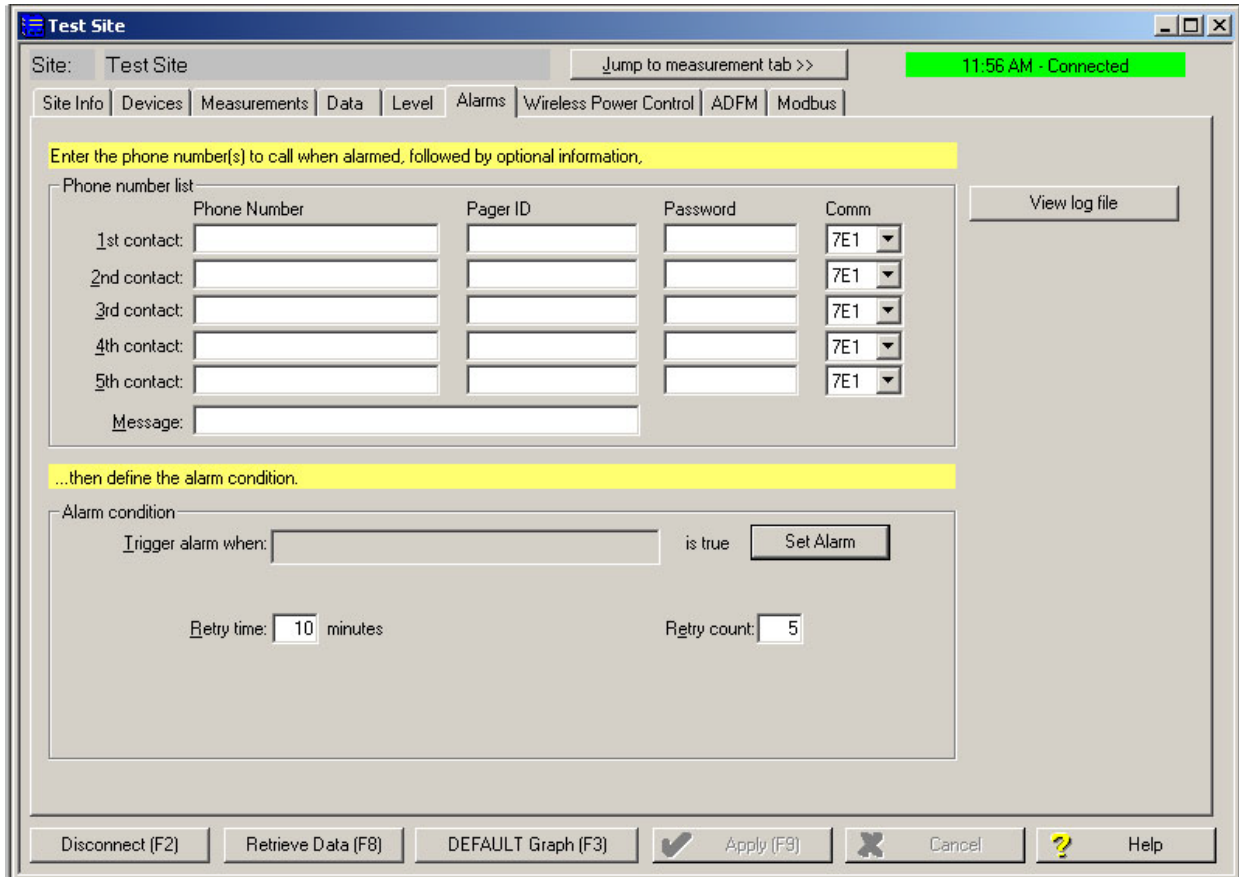

Figure 2-15 Dialout phone numbers and alarm conditions
1. Make sure you are connected to the site, and select the Alarms tab (Figure 2-15).